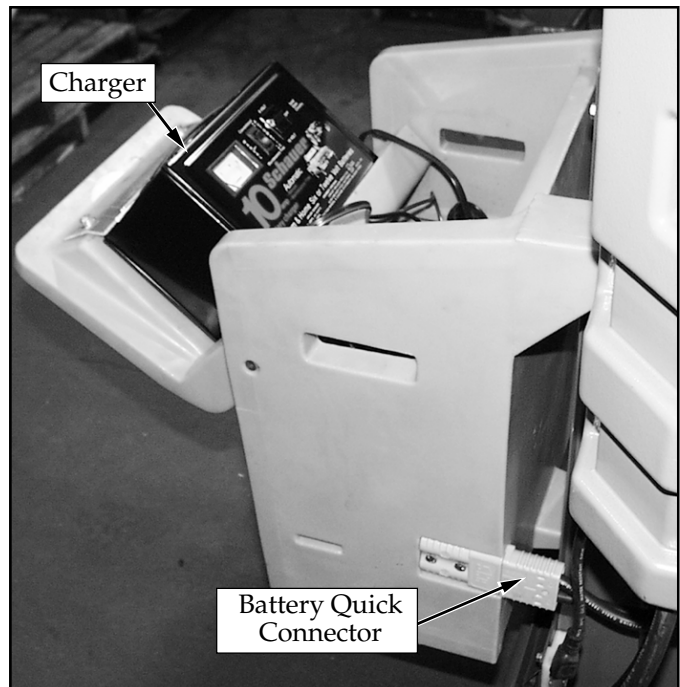

Figure 2-2: Battery Box
2. Disconnect the battery quick connector and remove the battery box from the rear of the mast assembly (Figure 2-2).